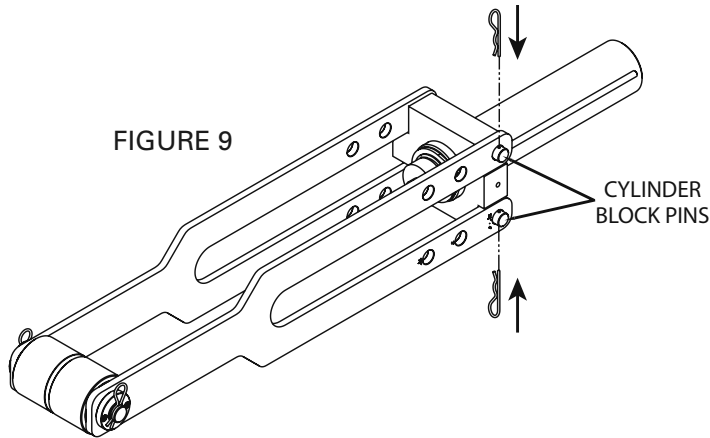

FIGURE 9
4. Place the hydraulic cylinder with the cylinder mounting block between the frame sides as shown in Figure 9. Insert the two cylinder block pins into the appropriate frame side holes for the size of conduit to be bent and secure each with a spring clip.
NOTE: The hydraulic cylinder with mounting block in Figure 9 is shown pinned in the position for bending 4" conduit. The frame side holes are marked to indicate where to pin the mounting block for each size.